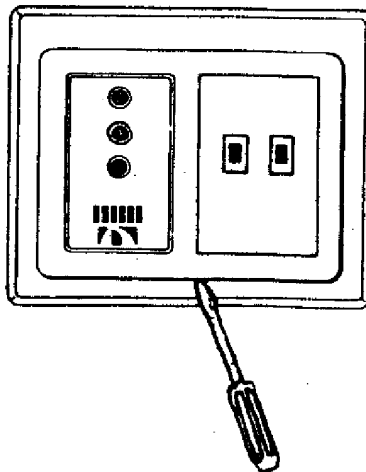

FIGURE 3
2. Remove RP-1003U cover by lifting with screwdriver inserted in slot provided. (Figure 3.)